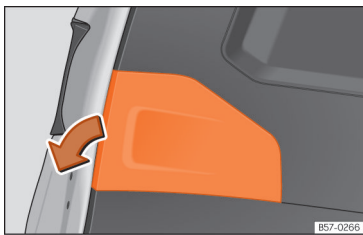

Fig. 205 Rear lid open: remove the lid.
- Remove the rear lid cover in the direction of the arrow >>> **Fig. 205**.